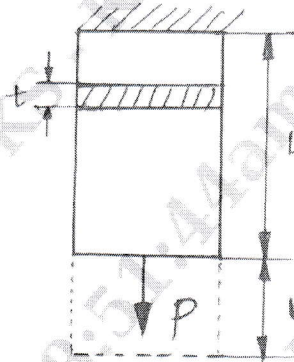

Fig.Q1(b)
b. A rectangular bar is subjected to an axial load "p" as shown in Fig.Q1(b), determine the expression for P.E functional and hence determine value of the potential energy (PE) for the following data : $E = 200\text{GPa}$, $P = 3\text{kN}$, $L = 100\text{mm}$, $b = \text{width} = 20\text{mm}$, $t = 10\text{mm}$. (06 Marks)